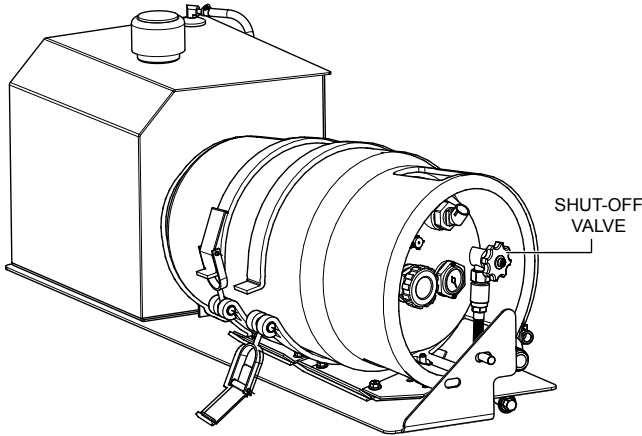

Figure 3. Close LPG Tank Shutoff Valve
1. **CLOSE** shutoff valve (Figure 3) on LPG tank.